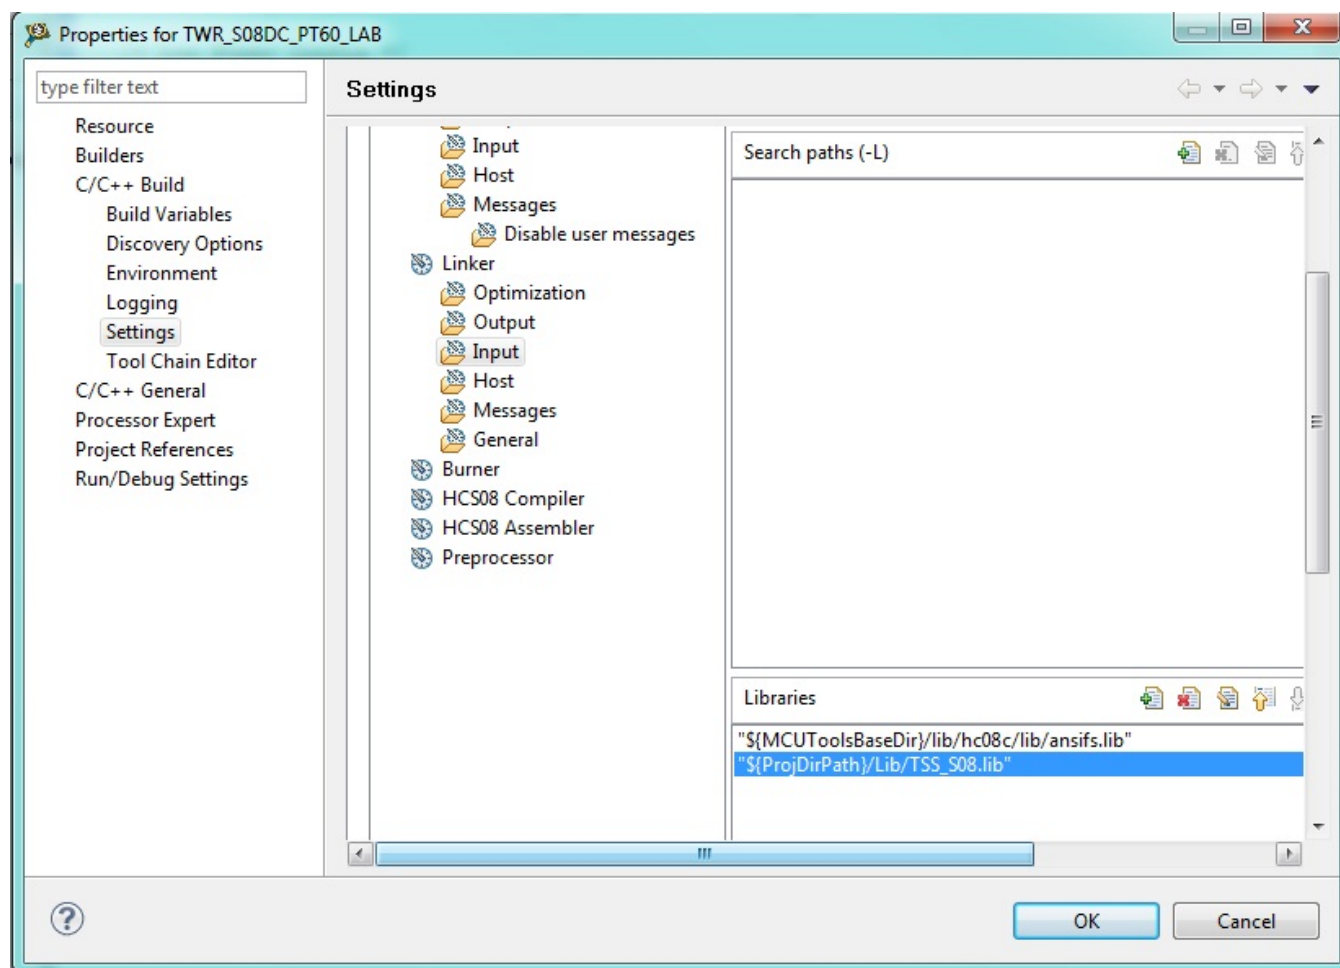

Figure 7. Add link library
- Set the link library. Choose File > Properties > C/C++ Build > Settings > Linker > Input, and then add TSS\_S08.lib as link library. See Figure 7.